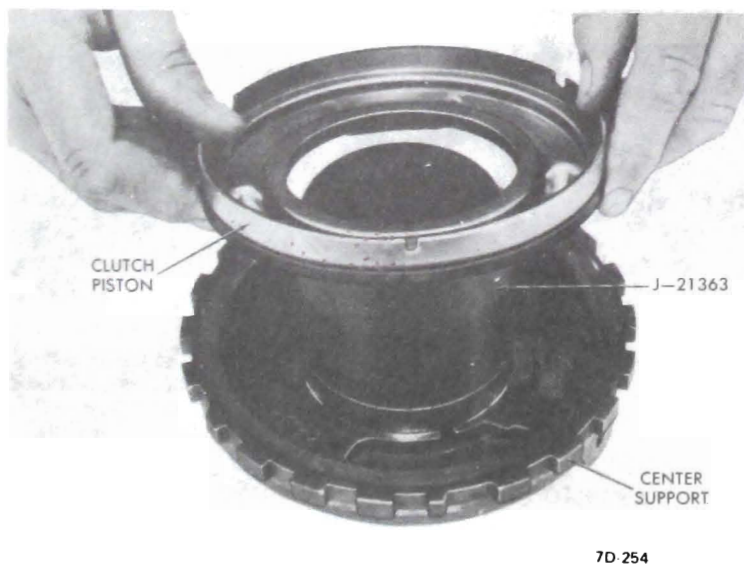

Figure 7D-254
4. Install three (3) release springs into the piston, space equally during assembly. See Figure 7D-247.